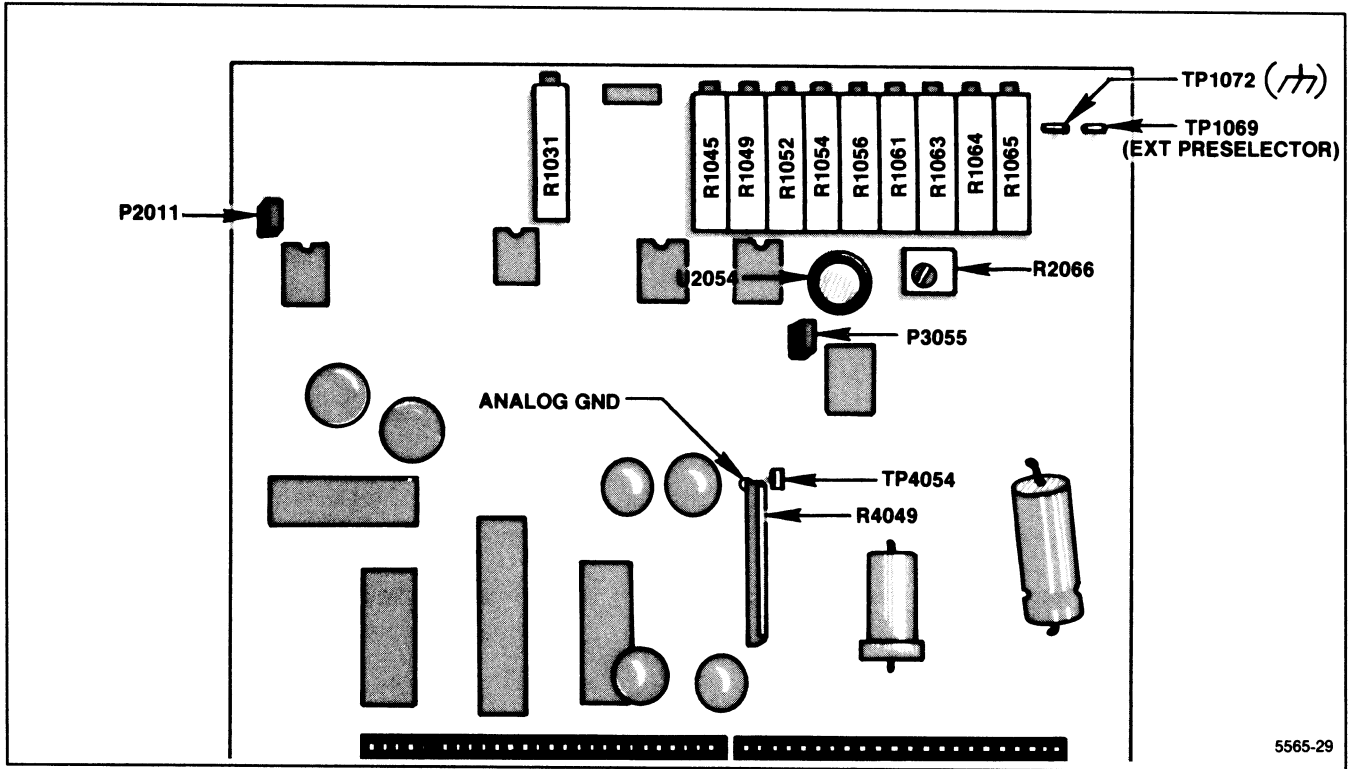

Figure 5-23. Preselector Driver test point and adjustment locations.
b. Set the offset for driver U2054 as follows: (Offset should only require adjusting if U2054 is changed.) Switch POWER off, pull the Preselector Driver board and install on extender board (Figure 5-23) then switch POWER on.
(1) Set the  $\Delta$ BAND/BAND $\nabla$  to band 1 (0—1.8 GHz).
(2) Remove P3055 and connect a DVM between TP4054 and analog ground (Figure 5-23). Set the voltmeter range to 30  $\mu$ V or less.
(3) Starting from a fully counterclockwise position, adjust Driver Offset R2066 (Figure 5-23) for 0 V at TP4054.
(4) Disconnect the DVM, replace P3055, then switch POWER off and reinstall the Preselector Driver board. Switch POWER back on.
e. Set the CF/MARKER FREQUENCY to center the 2.1 GHz marker. Center the Input Offset adjustment R1031 (Figure 5-23), then center the 2.1 GHz marker with the CF/MARKER FREQUENCY control. Ground TP1069 with a jumper strap.
g. Peak the 2.1 GHz signal with the -829 MHz IF Offset R1049 (Figure 5-23).
n. Increase FREQUENCY to the 12 GHz marker, then peak the 12 GHz point with Shaper #1 R1054 adjustment (Figure 5-23).
u. Adjust -829 MHz IF Offset R1049 (Figure 5-23) to peak the 3.5 GHz response.
x. Tune the 19 GHz marker to center screen then peak the 19 GHz signal with Shaper #3 R1061 adjustment (Figure 5-23).